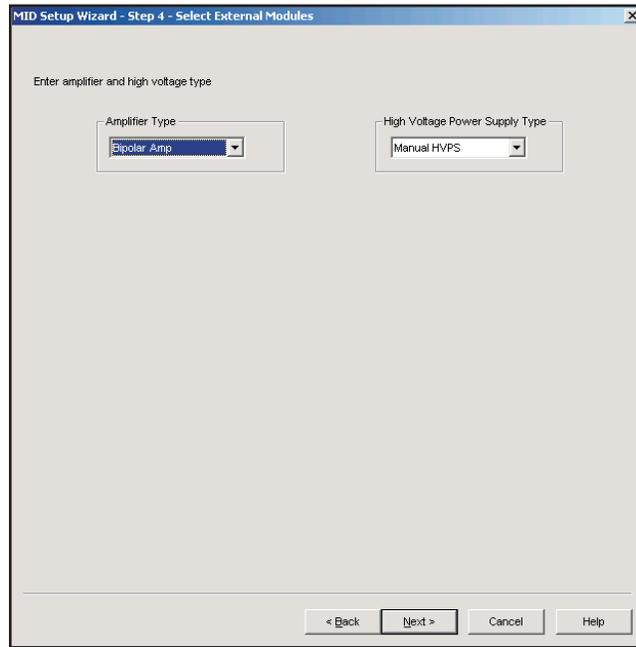

Figure 12 Selecting the External Modules
Step 4 (Figure 12) lets you specify the Amplifier and HVPS being used with the Eagle.